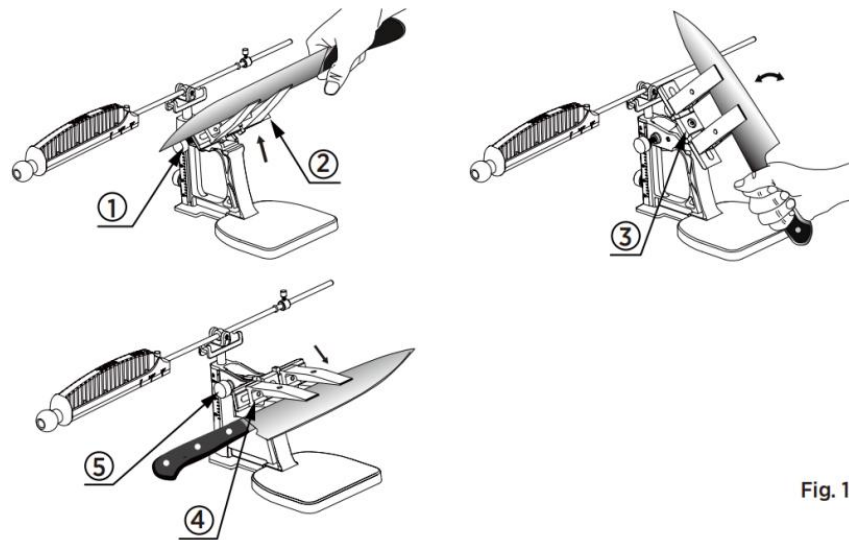

Fig. 15
3. Continue sharpening until you feel a burr along the entire edge on the opposite side of the blade. Loosen the flip knob, raise the rotary beam, and carefully rotate it 180° to switch to the opposite side of the blade. Hold the knife handle for better control during this step. (See Fig. 15). Once the adjustment is complete, tighten the flip knob securely.